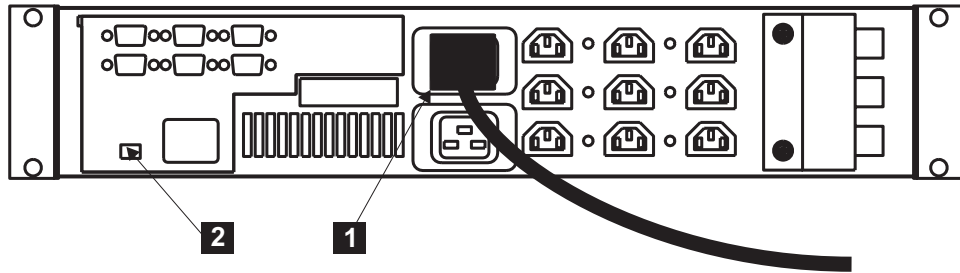

Figure 235. Installing the 2145 UPS power cable
9. At the back of the 2145 UPS, plug the 2145 UPS main power cable into the power socket, **1** in Figure 235 on page 508.